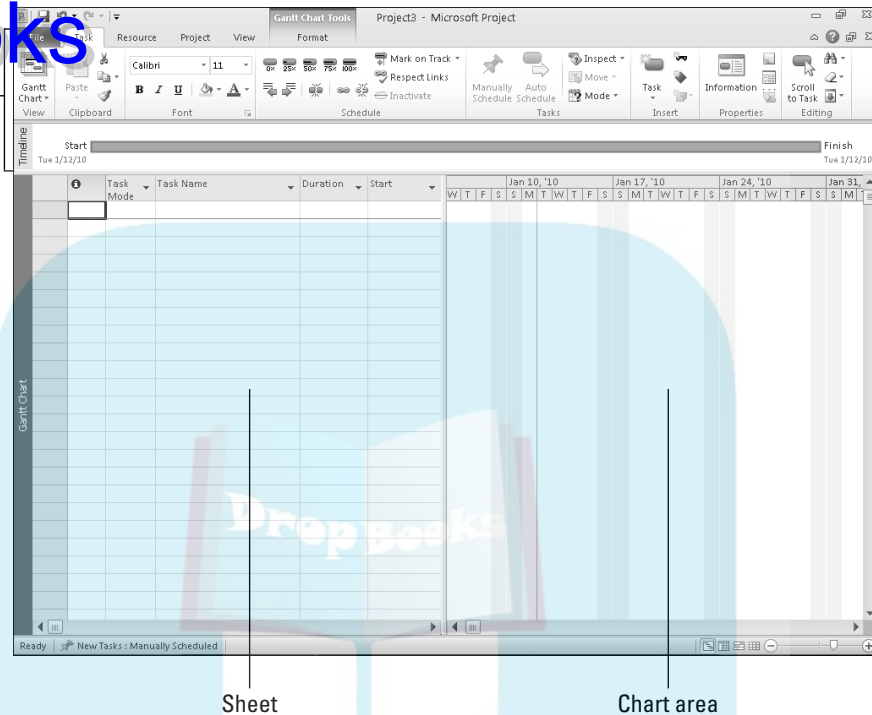

Figure 1-12:
After you choose settings in the Project Information dialog box and then click the OK button, you're faced with a blank Project schedule, as shown in Figure 1-12. As a writer, I can tell you that nothing is as daunting — or as inspiring — as facing a blank page. It's the canvas on which you create your Project plan.
In Figure 1-12, you see Gantt Chart view. You discover more about various views in Chapter 2. For now, note the following:
- The *timescale* — the indications of time increments across the top of the chart area — helps you interpret the timing of each task bar. You can adjust the increments to show your project in larger or smaller increments of time. Figure 1-12, for example, shows increments in days.